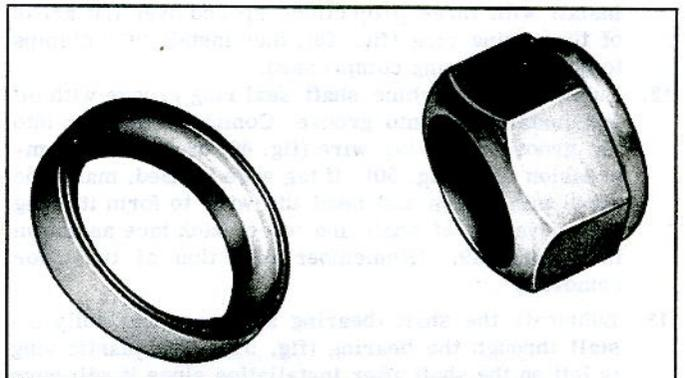

Fig. 54—Special Washer and Nut
- Remove assembly from press and position the special impeller washer (fig. 54) with dished side upward and install (LEFT HAND THREADS) the self-locking nut on the turbine shaft. Use a folded cloth to hold the turbine wheel and torque the nut to 80 inch lbs.